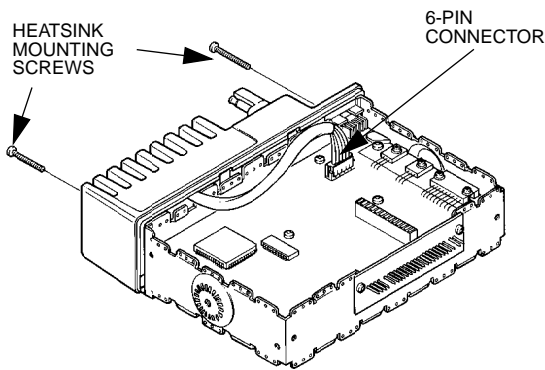

Figure 1-4.
2. Disconnect the 6-pin connector from the logic board (Figure 1-4).
3. Remove the heatsink mounting screws (Figure 1-4).